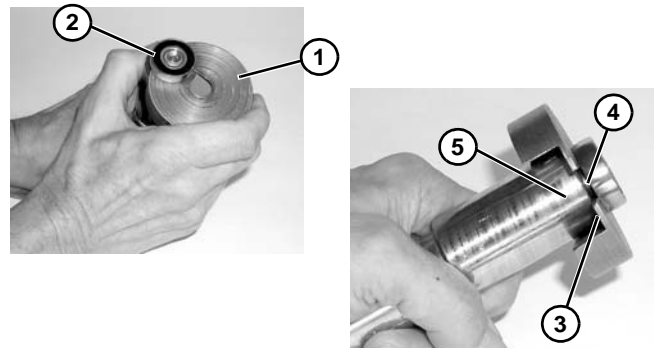

Figure 56
1. Place bearing removal tool part #456063 (Figure 56, item 1) below bearing (Figure 56, item 2) with lip (Figure 56, item 3) located in gap (Figure 56, item 4) between bearing and spindle hub (Figure 56, item 5) as shown.